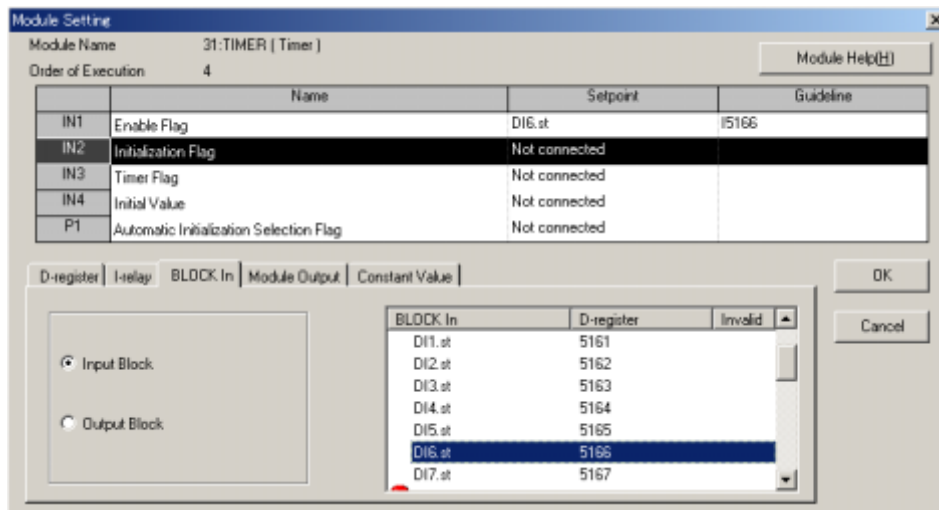

Figure 12.5.7 Configuration of the <IN1> Input
- (3) The <IN1> module input is waiting for the data setting.
- (4) Click the <BLOCK In> index.
- (5) Double-click <DI6.st> in the list box. The <DI6.st (Setpoint column)> and <I5166 (Guideline column)> options appear in the <IN1> row. (Figure 12.5.7)